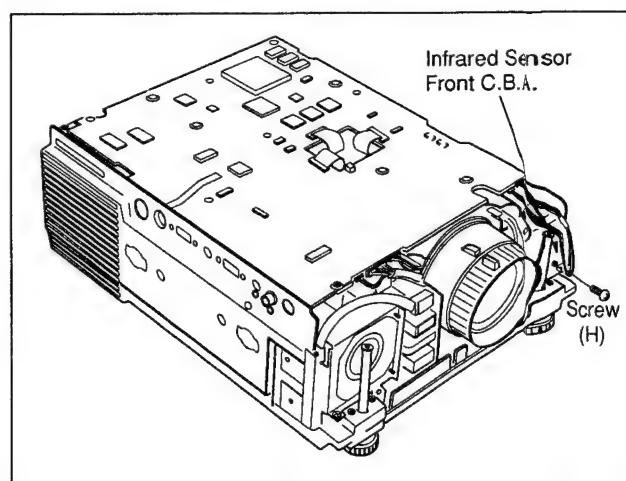

Fig. D8
1. Remove a screw (H) as shown in Fig. D8.